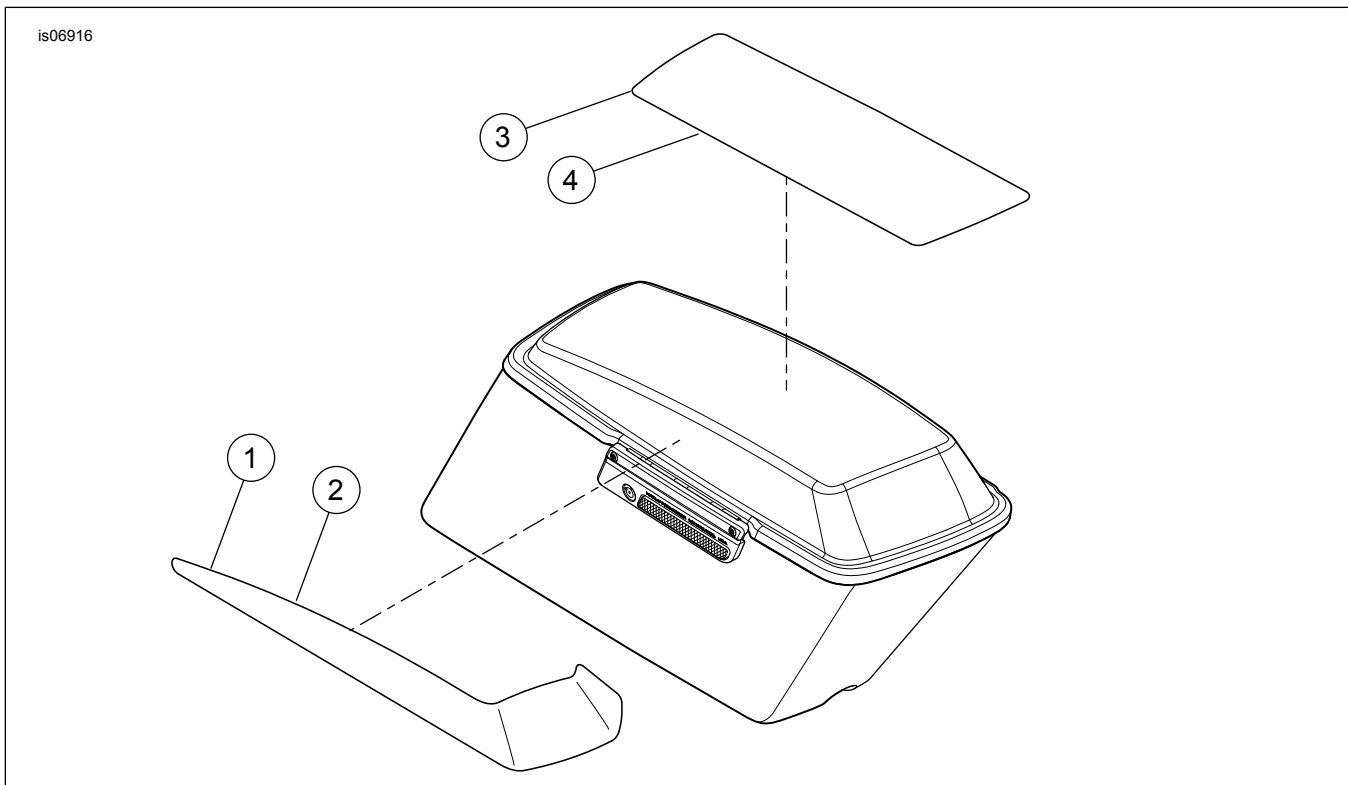

Figure 2. Service Parts: Paint Guard Kit
See Figure 2 and Table 1.
2. See Figure 2. Wash all mounting areas thoroughly. Allow to dry completely.
- See Figure 2. Identify each paint guard piece and its mounting location before proceeding.